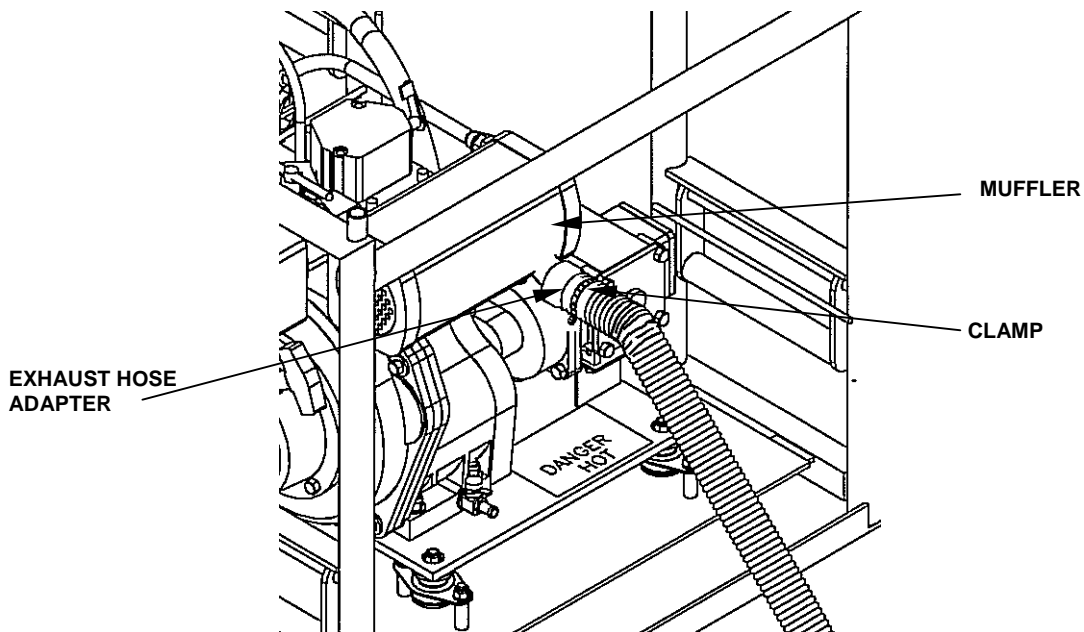

Figure 7. Diesel Engine Exhaust Hose Installation.
- 17. Place exhaust adapter over engine exhaust pipe. See Figure 7.